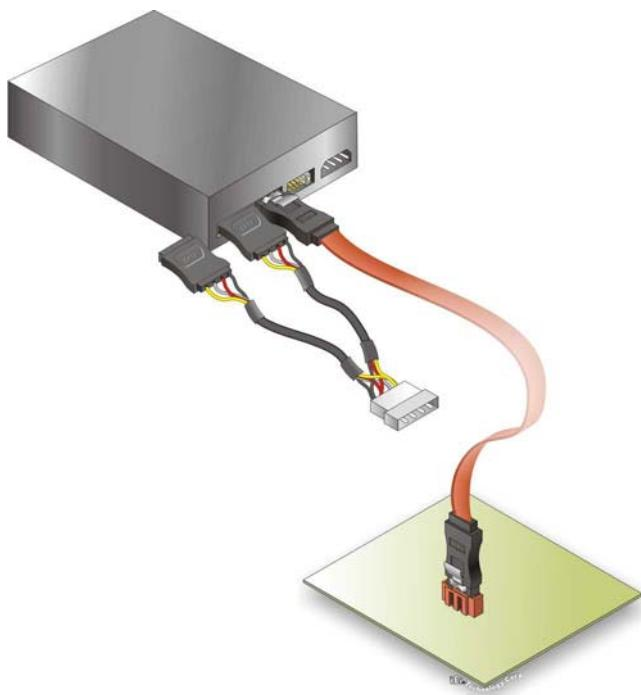

Figure 4-12: SATA Power Drive Connection
Step 3: Connect the cable to the SATA disk. Connect the connector on the other end of the cable to the connector at the back of the SATA drive. See Figure 4-12.
Step 4: Connect the SATA power cable. Connect the SATA power connector to the back of the SATA drive. See Figure 4-12.